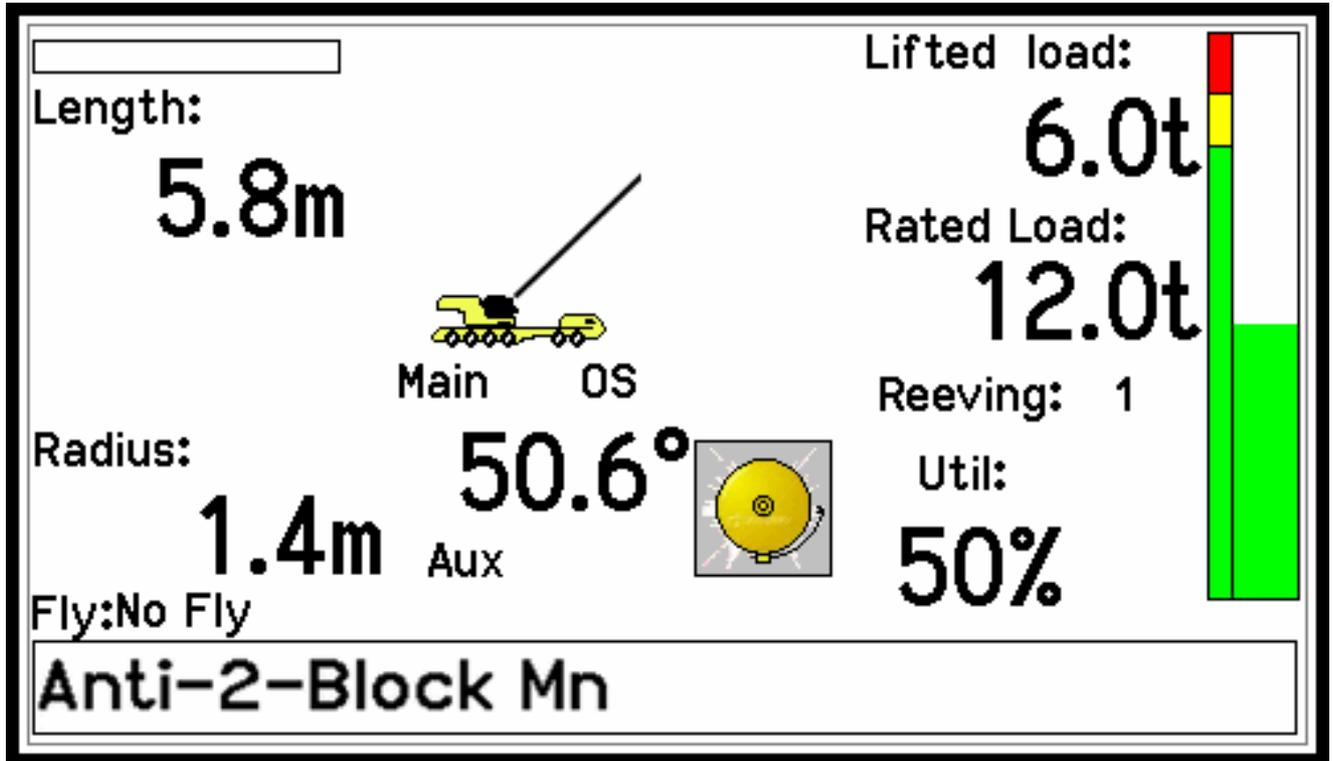

FIGURE 8
**Program:** *Bottom of screen* – This is the current program you selected. This will change to an error message if there is any error on the computer (see Figure 8) with the errors scrolling if more than one.
## ERROR MESSAGES - FIGURE 8 & AND TABLE 1